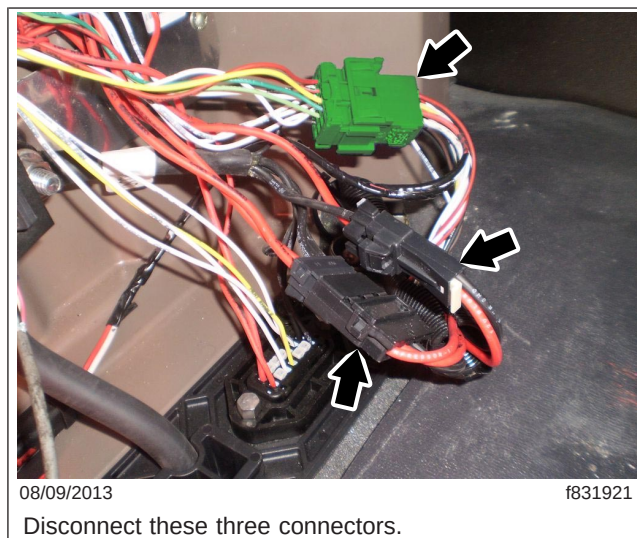

Fig. 4, Electrical Center, Vehicles with DDC O/I
13. On vehicles with DDC O/I, disconnect the three connectors on the harness coming from the unit at the ParkSmart electrical center. See Fig. 4.